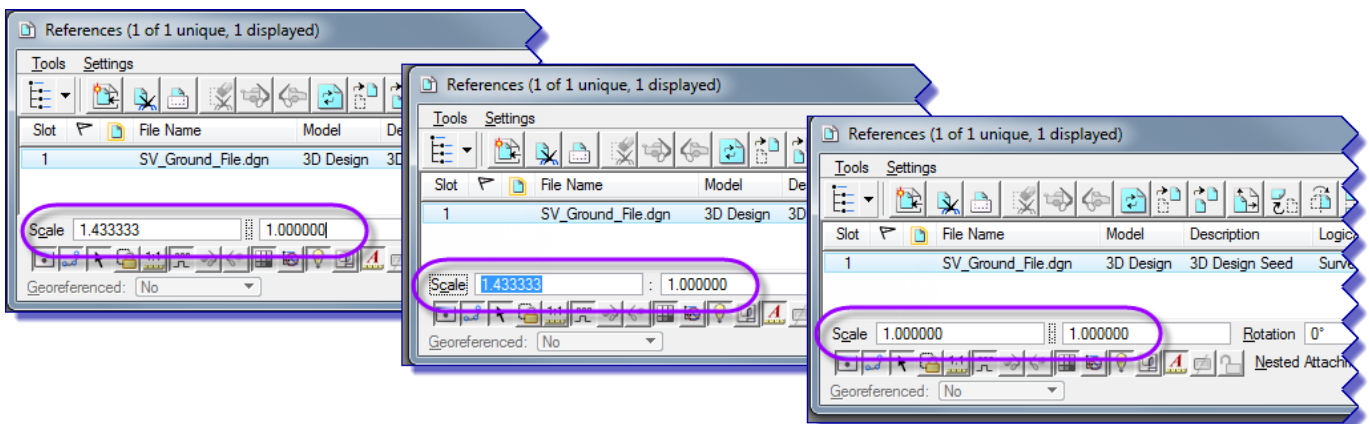

Figure 39 - Reference File Scale
6. If something is incorrect (see Figure 39), check the **Scale** of your reference file(s), it should be **1:1**. If it is not, select the reference file(s) and change the scale to 1 to 1. Update view.